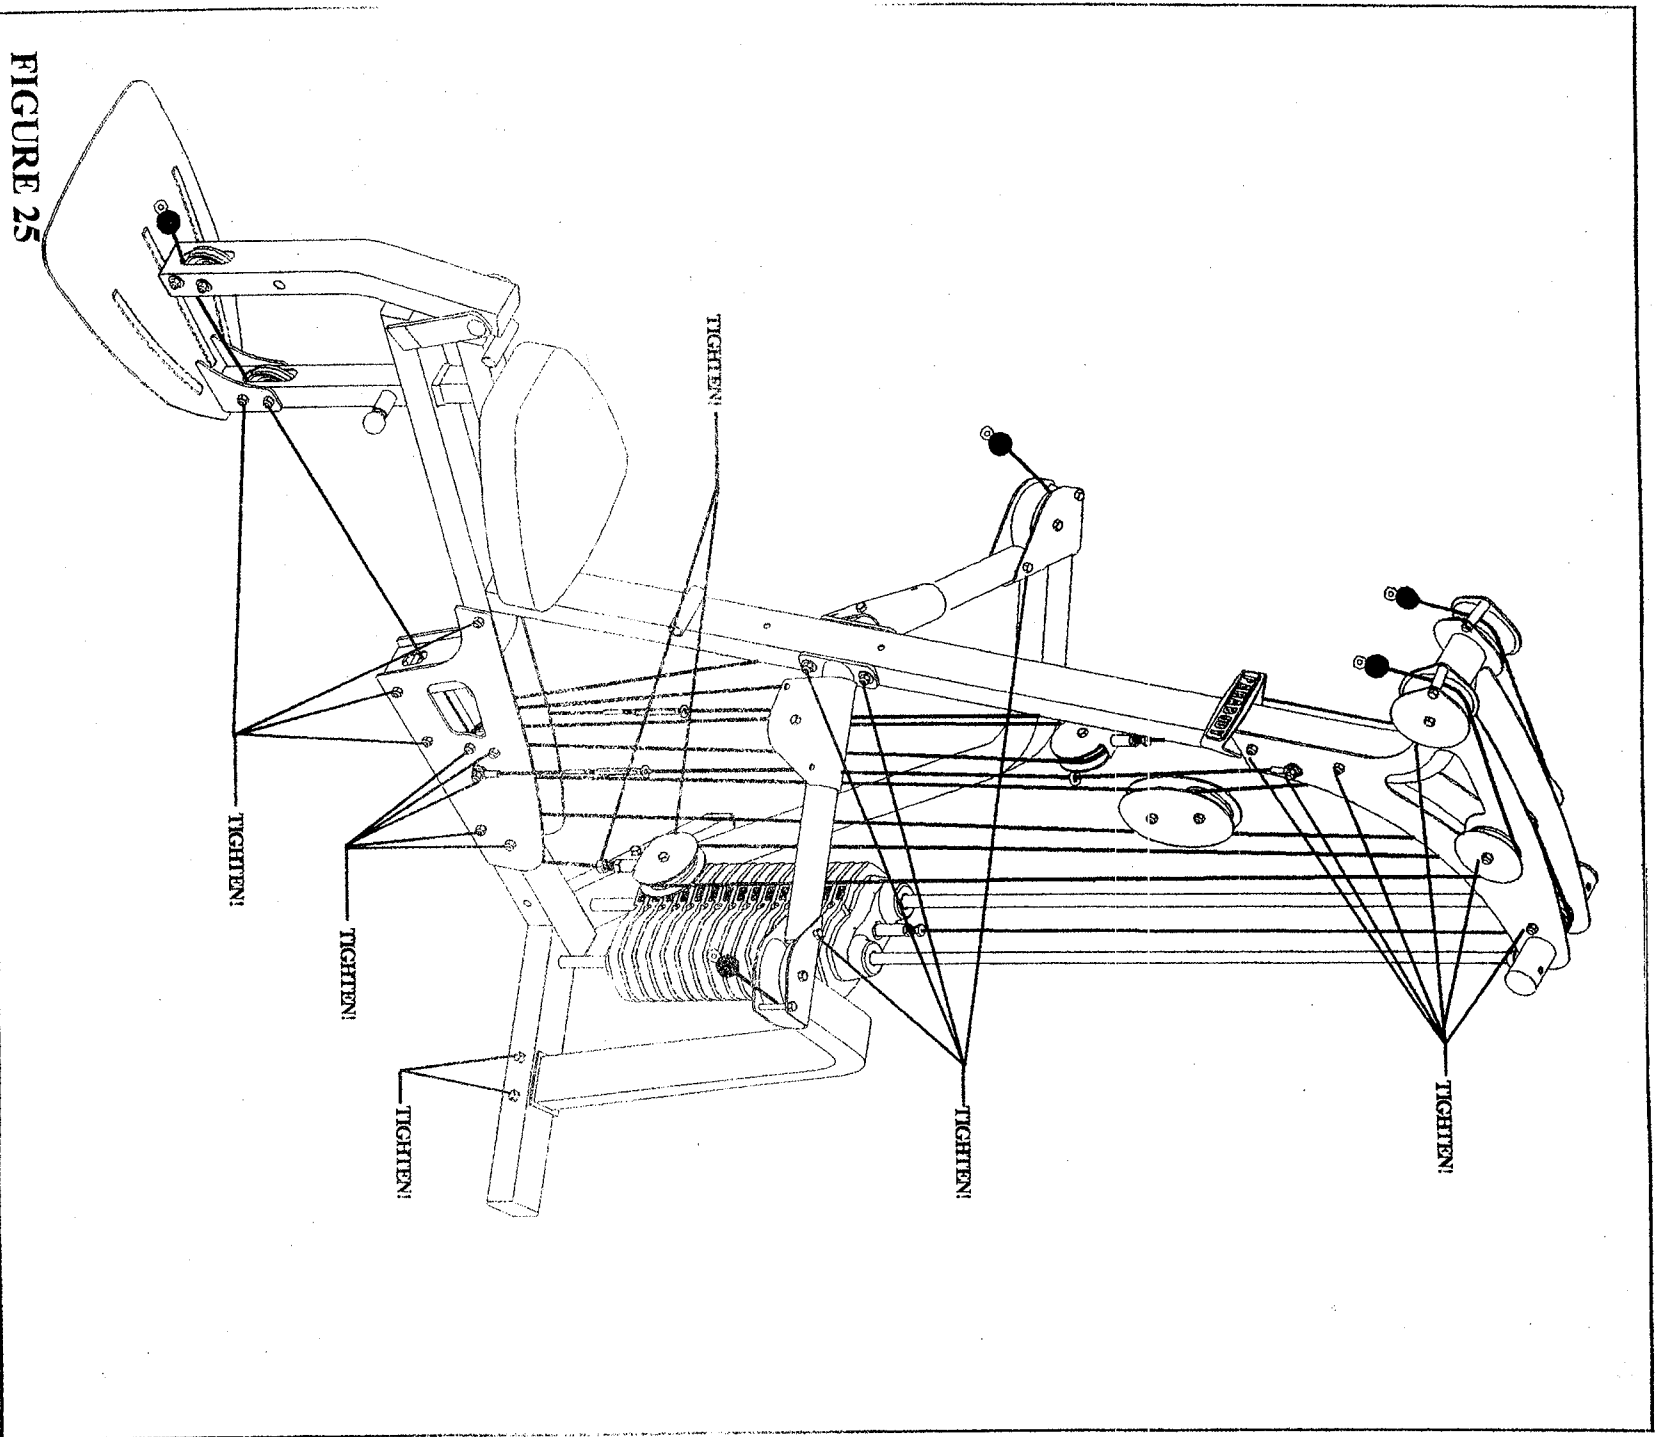

FIGURE 25
- SECURELY tighten all loose frame connections as shown in FIGURE 25!